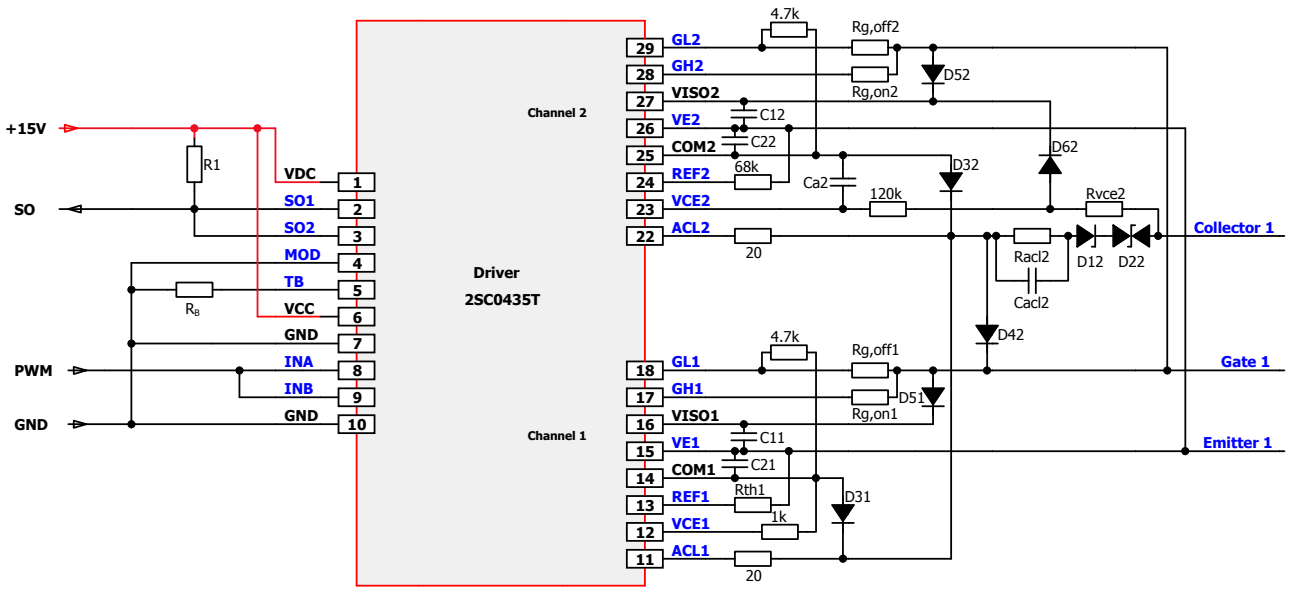

Fig. 23 Paralleling a dual-channel driver to a single output (example with 2SC0435T)
It is recommended to proceed in the following way and as shown in Fig. 23 to merge both driver channels to one logical channel (excluding 2SC0108T):
- The active clamping controls the turn-off driver stages in the driver core at turn-off. Each of the Advanced Active Clamping pins ACLx of both channels must therefore be connected to a  $20\Omega$  resistor according to Fig. 23 (The  $20\Omega$  resistors as well as  $D_{3x}$  must be omitted on 2SC0635T, as these components are already available on the driver core).